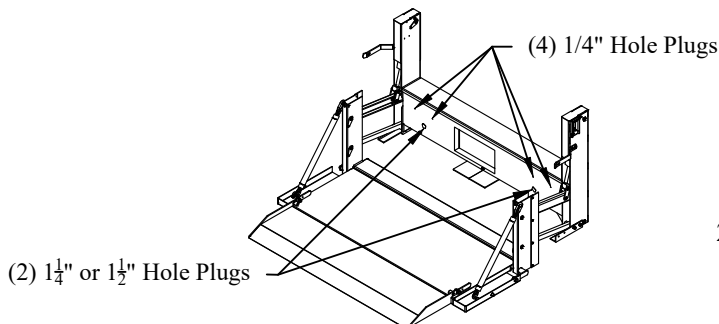

Figure 4: Plugged Mounting Holes
4. Remove two (2) $1\frac{1}{4}$ " or $1\frac{1}{2}$ " hole plugs and four (4) $\frac{1}{4}$ " hole plugs from access holes (Figure 4).
- 1. Pull** one 3-prong tail light plugs and one 2-prong tail light plug through each 1¼" or 1½" front access hole (Figure 4).
- Note: Step 2 may be skipped if the front access holes are 1½" holes (Figure 4).
- 4. Secure** the 1¼" grommets or 1½" bushings inside the 1¼" or 1½" front access holes (Figure 4).